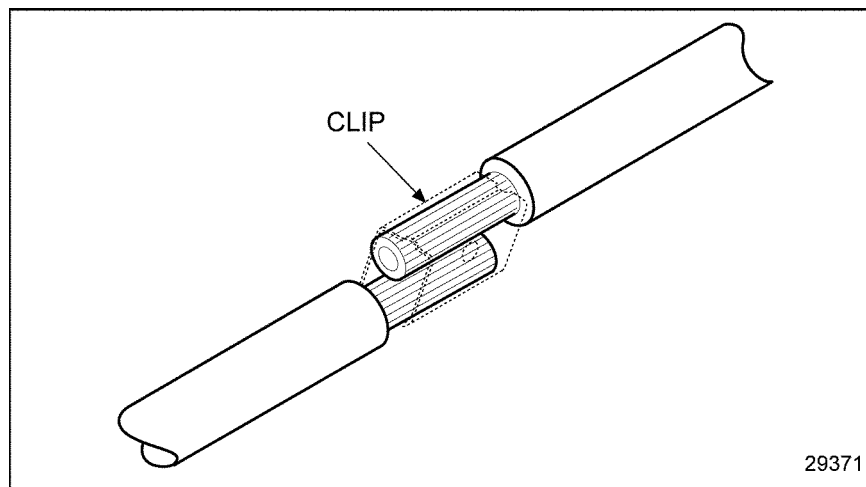

Figure 17-15 Securing the Leads With a Clip
2. Secure the leads with a commercially available clip and hand tool. See Figure 17-15.